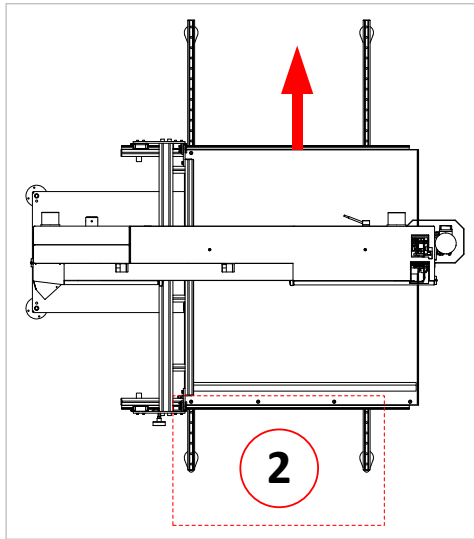

Figure 9: Move the sliding table (left) to the back
1. Release the two clamping levers (H) located on the left and right under the table top.
2. To enable access for mounting, the left sliding table must first be pushed all the way back (see arrow in ⇒ Figure 9).
3. Retighten the two clamping levers (H) to fix the table in the rear end position.